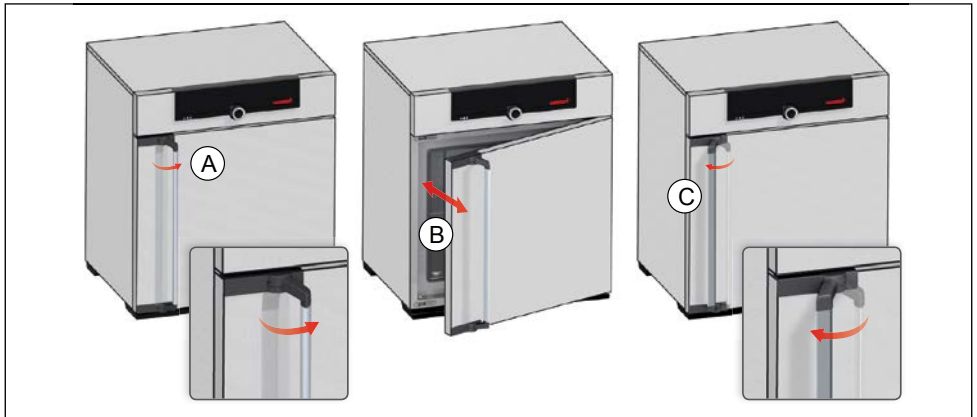

Fig. 10 Opening and closing the door
- ▶ To open the door, pull the door handle to the side (to the left or to the right, depending on the door variation, see Fig. 10, A). The door opens slightly, so that the heat can be vented with the door ajar in case of high temperature inside the chamber. The door can then be opened completely (B).
- ▶ To close the appliance, push the door closed and the door handle to the side (C).